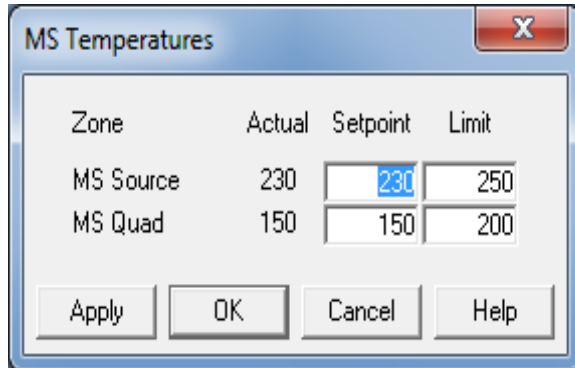

Figure 19 Setting temperatures
- 2 Select **Temperatures** from the **MoreParams** menu (Figure 19).